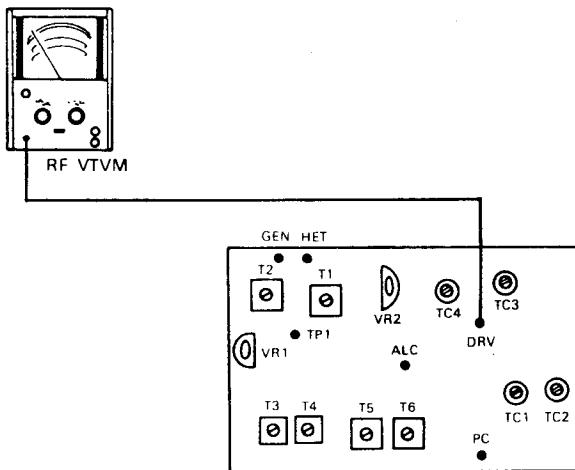
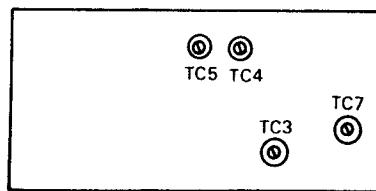

Fig. 23 MIX unit
Fig. 24 Final unit
Have the RF VTVM connected as shown in Fig. 23. Adjust T1, T3 ~ T6, TC1 ~ TC4 of MIX unit to obtain maximum RF voltage.
- 3) Adjust ,TC3, TC4, TC5 and TC7, shown in Fig. 24, and also TC3 and TC4, shown in Fig. 23, to obtain the largest possible output. (Repeat the foregoing sequence several times, each time adjusting the FINAL control to maximize the output.)